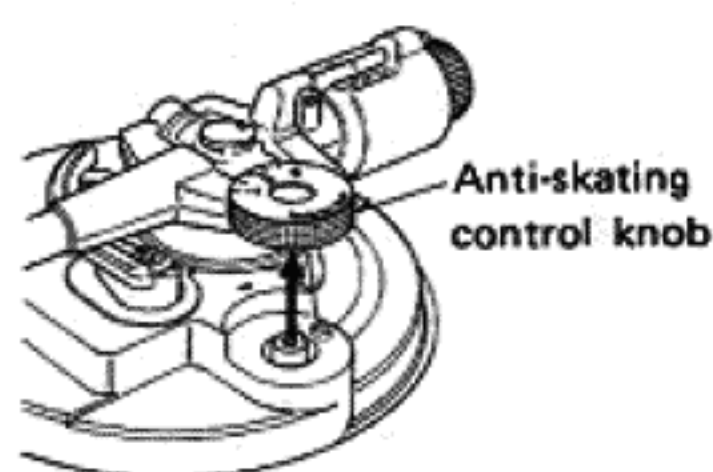

Fig. 8
1. Remove the anti-skating control knob. (Fig. 8)